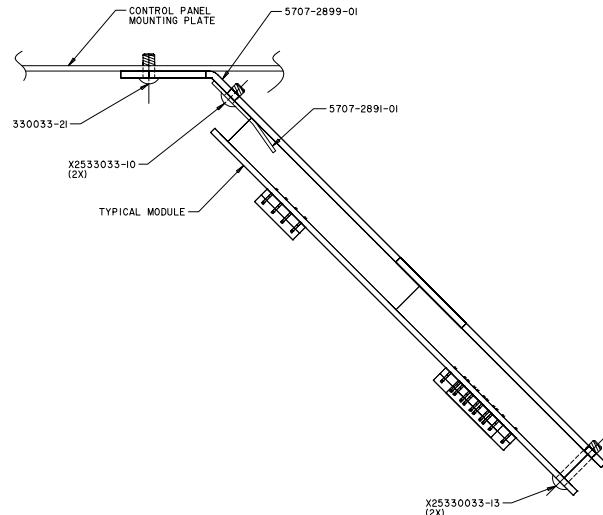

Figure 3 Detail of Module Mounting
3. Using 2 #6-32 x 3/8 inch screws from the kit, install the module mounting clip for the TCI Module as illustrated in Figure 3.
4. Slide the left LCI Module mounting foot into the slotted holes on the mounting clip. Using 12 #6-32 x 3/4 inch screw from the kit, secure the module onto the mounting bracket as illustrated in Figure 3.